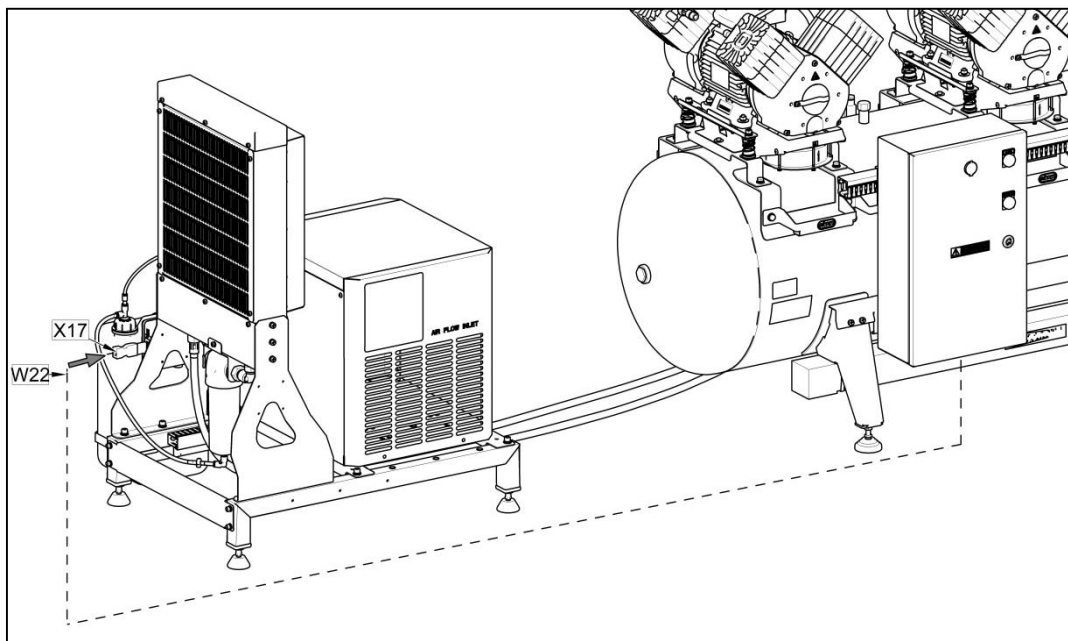

Fig.10
- Connect the compressor module to the dryer module using the W22 cable (Fig. 10).